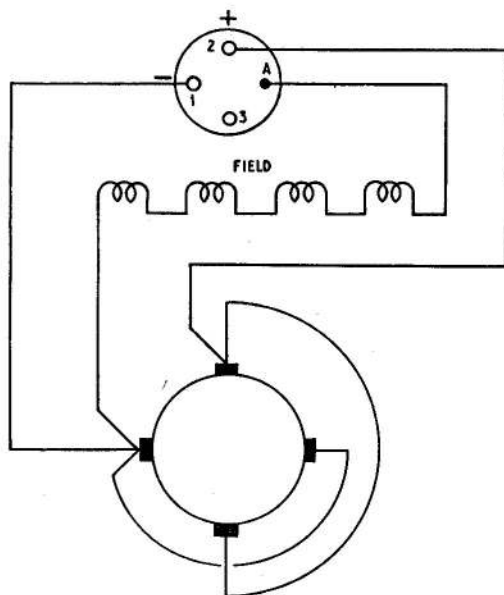

Fig. 2. Diagram of internal connections
3. The brushgear incorporates two pairs of diametrically opposite brushes, connected as shown in the internal wiring diagram in fig. 2. Access to the brushgear is gained by removing the window strap, which incorporates the cooling air induction inlet.